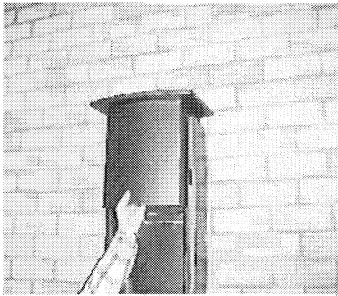

Fig 3
- Slide the telescopic piece into the top of the back plate and screw it to the ceiling.(fig 3)